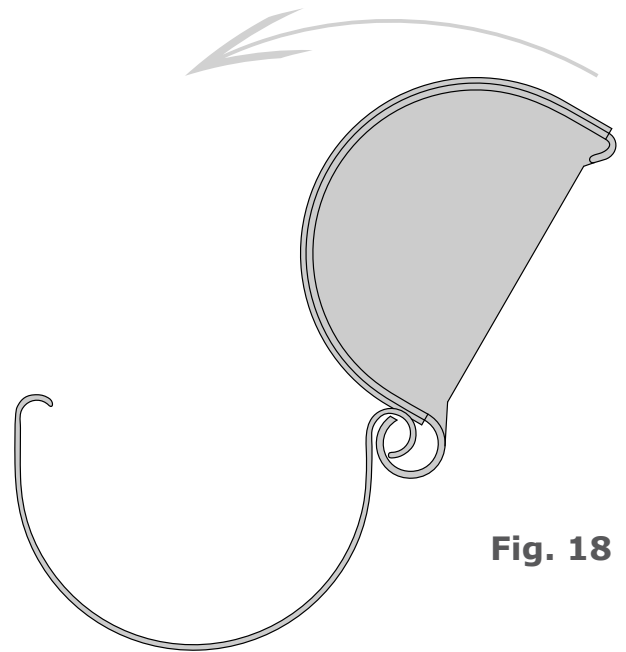

Fig. 18
11.1 Hook the end cap over the gutter section's front facing bead, near the gutter end. Fig. 18.